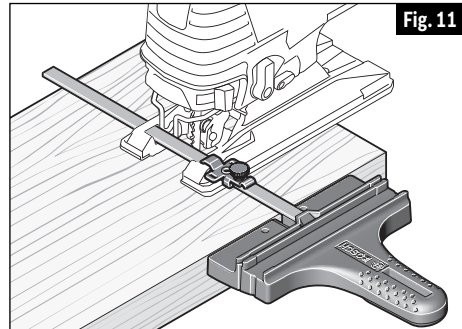

Fig. 11
1. The guide fence surface needs to be positioned **ALONGSIDE** the workpiece (Fig. 11).
trigger and slowly push the saw forward (Fig. 11).